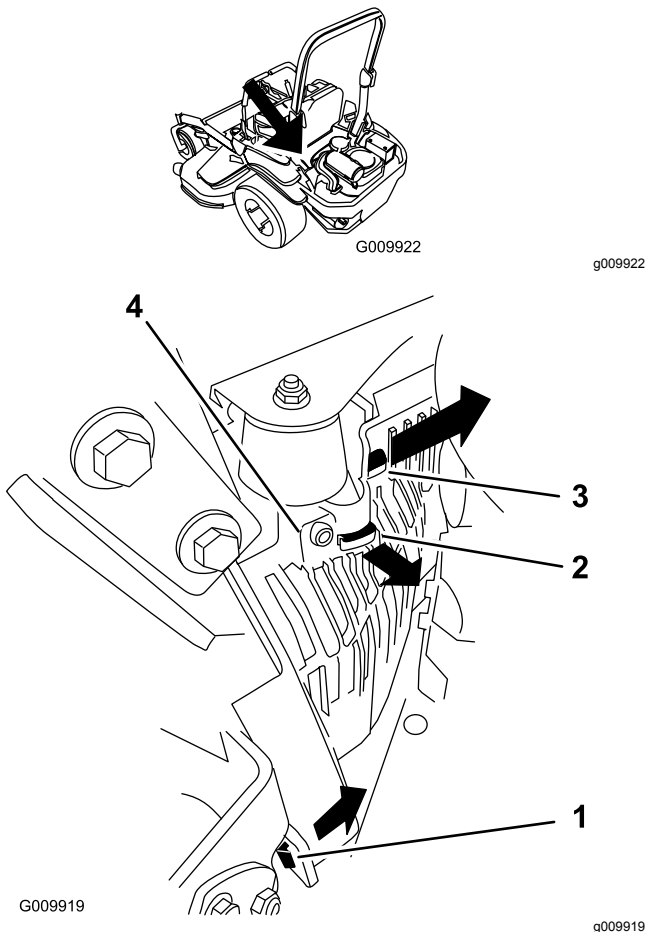

Figure 53
3. Remove the left hydraulic-unit shroud in the order listed in Figure 53.
5. Install the left hand hydraulic-unit shroud (Figure 53).